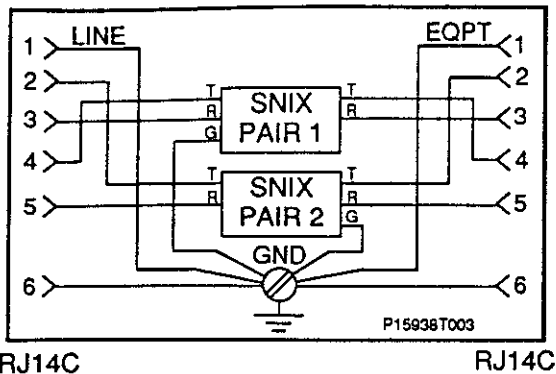

Figure 10: Duplex Jack Model SNIX
**5.03** A two pair duplex SNIX designed for indoor use is offered with two RJ14C modular telephone line jacks. One jack is designated as the "line" and the other as "eqpt." T and R of the SNIX Pair 1 are wired to pins 3 and 4 of the jacks. T and R of Pair 2 are wired to pins 2 and 5. The ground path of each SNIX is connected to a "G" screw terminal, as are the conductors for pins 1 and 6. An external low impedance ground connection must be made to this ground terminal or pins 1 or 6 for the SNIX to perform properly. See Figure 10.